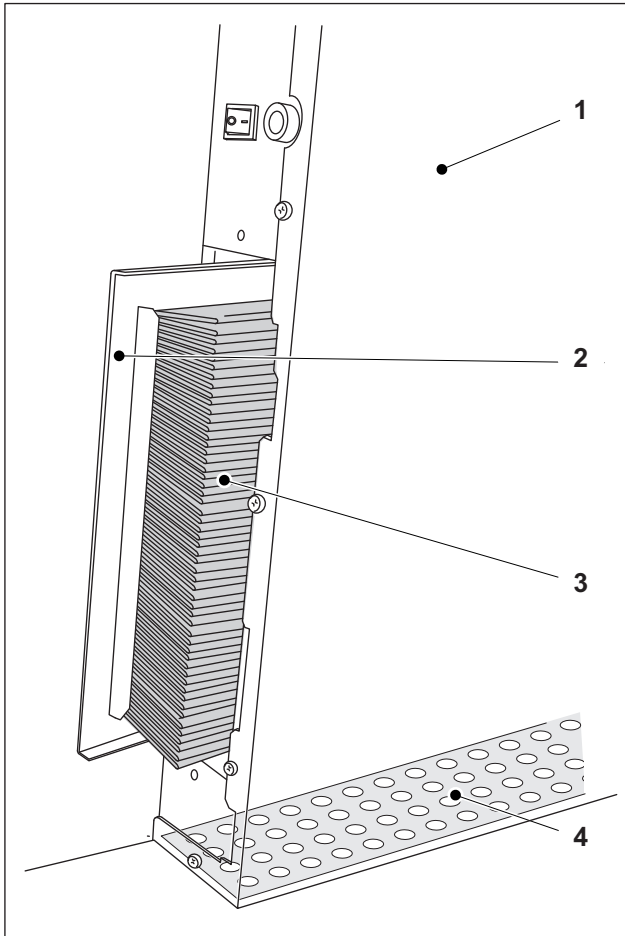

Fig. 28 Cover of the filter fan
1. Clean the air intake opening (Fig. 28/4) with a soft, lint-free cloth.
5. Pull out the support of the filter element (Fig. 28/2).
9. Insert the support of the filter element (Fig. 28/2) into the holder.